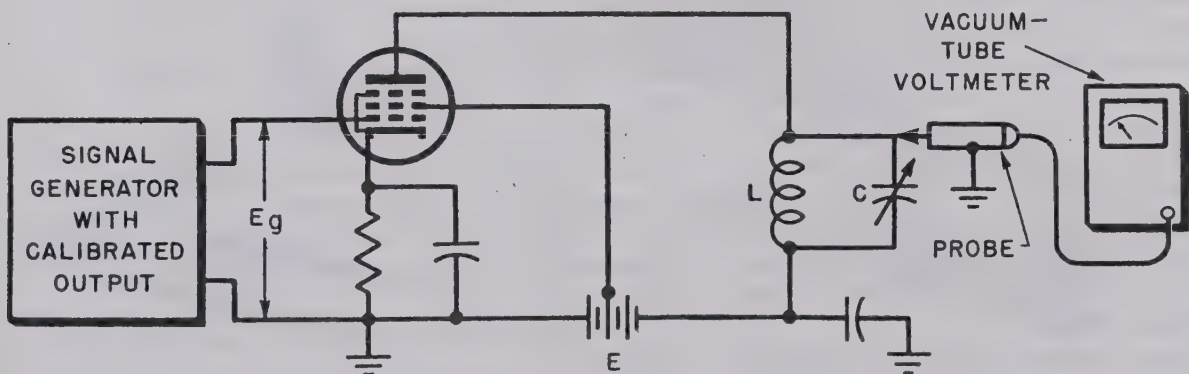

Figure 44. Measuring gain of an r-f amplifier stage with vacuum-tube voltmeter.
- (3) Because of its wide frequency range, the vtvm is particularly suitable for measurement of gain in an amplifier stage. This is accomplished by measuring the voltage output of the amplifier for various frequencies and dividing this reading by the voltage input. Such measurements can be made on a single stage (fig. 44), or on a group of stages taken together. The voltage input to the stage or stages is furnished by a signal generator, a device which furnishes a continuous-wave signal with constant peak amplitude at various frequencies.
- (4) Vtvm's can be used to locate defects in radio receivers and transmitters by applying a source of signal voltage to the input of the receiver or transmitter, and measuring the voltage developed at every critical point. The amplifier-rectifier vtvm is used for this method of signal tracing because the voltages at some points in the circuit are small and must be amplified before they are measured. Tuned amplifier-rectifier vtvm's are used in commercial signal-tracing instruments for measurement of distortion, hum, and amplifier gain. These measurements help to determine the stage in which defects exist, and the process is called defect localization. Other measurements possible with the vtvm include the checking of avc (automatic-volume-control) voltage, discriminator voltage (in f-m receivers and radar sets), and the grid-bias voltage of oscillators.